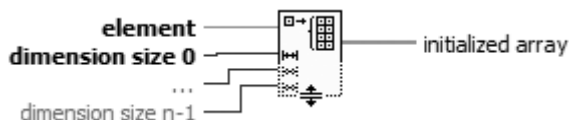

Figure 7.18
- **Initialize Array** will create and initialize an n -dimensional array with the value of your choice (see Figure 7.18). You can configure it for larger dimensions by “growing” it with the Positioning tool to provide more **dimension size** inputs. This function is useful for allocating memory for arrays of a certain size or for initializing shift registers with array-type data.